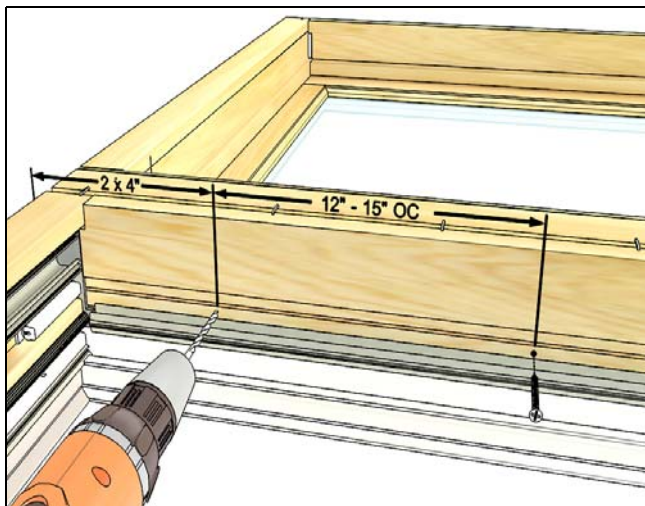

Figure 17
5. On picture units, use the holes already pre-drilled in the head jamb (done at the factory). On operator units, countersink and pre-drill holes 4" (102) from each corner and 12-15" (305-381) on the center of head jamb using a 1/8" (3) drill bit. Place holes on the groove used to hold in the parting stop. Fasten the two units together with #8 x 1 1/2" Phillips flat head wood screws as shown in Figure 17.